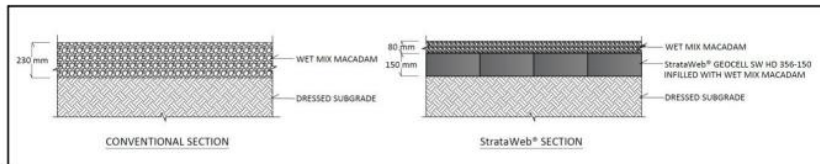

Fig. 1 Schematic of the test sections
3. Several plate load tests were conducted on new factory construction site in Daheli, Gujarat; over conventional unreinforced section and **StrataWeb®** reinforced section of flooring to obtain modulus of subgrade reaction. The schematic of the test sections are shown in Fig. 1 below.